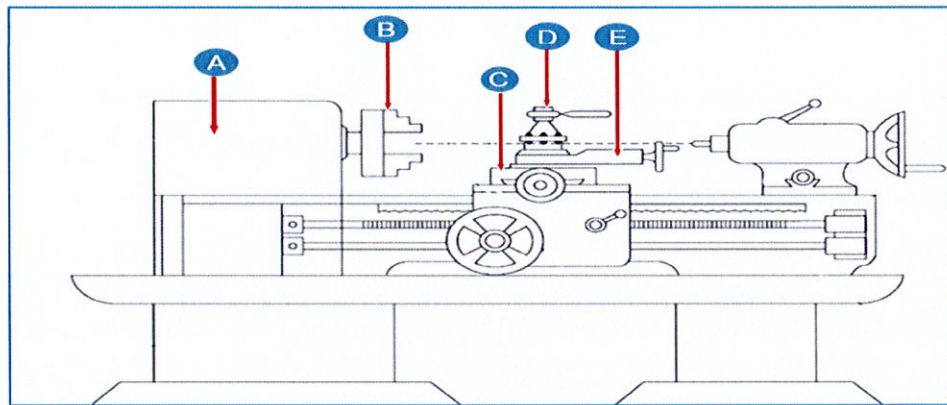

Figure 2(a) / Rajah 2(a)
- a) Name the **FIVE (5)** parts of lathe machine as shown in Figure 2(a).